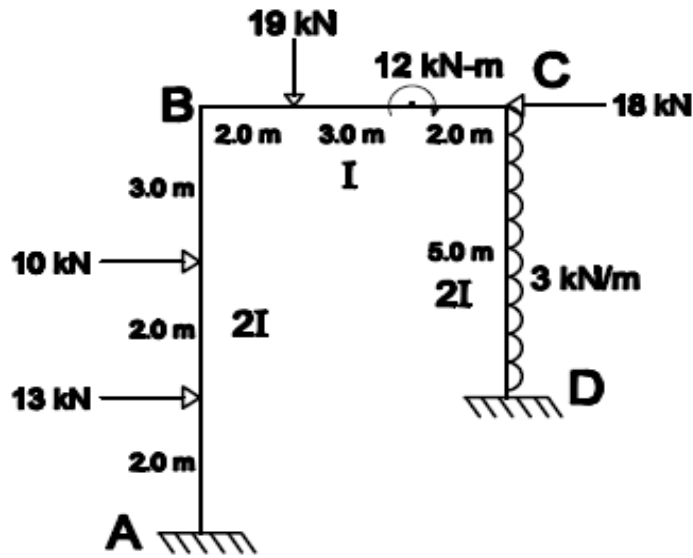

Figure 7
7. Analyse the given frame using flexibility method. Also draw B.M.D. [Figure.7]